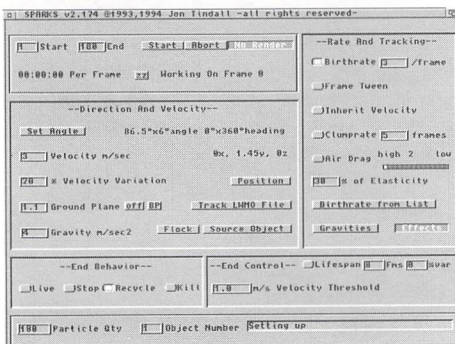

Figure 4: The Sparks interface with our central spout settings.
- Under Rate And Tracking select Birthrate on and input 3. For Velocity (m/sec) input 3. Type 20 for the % Velocity Variation field. For the Ground Plane input 1.1. For Gravity (m/sec²) input 4. Finally, click on the Position button and type 1.45 on the Y axis. Leave the other two axes (X and Z) at 0. Your screen should look something like Figure 4.
blend the blue into the black background and vice versa. After saving the color version of each image, I converted each one into a grayscale negative, making sure to boost the blue channel considerably more than the red or green in order to heighten the contrast between the dust and the background. This step ensures that, when applied as a Transparency texture map, the blue region (now represented by black in the negative) will be fairly opaque; hence, more visible (Figure 4).